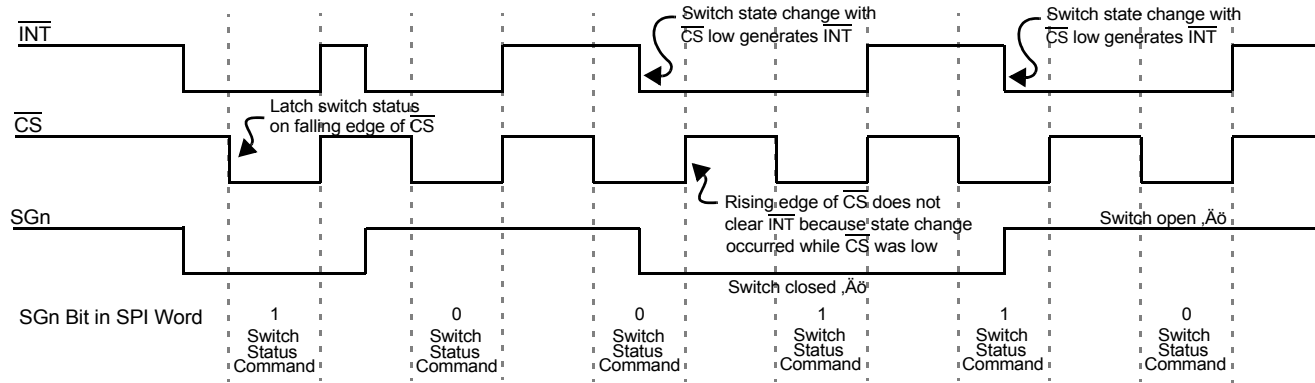

Figure 6. Normal Mode Interrupt Operation
2. $\overline{INT}$ pin is reset to logic [1], except when additional switch changes occur during $\overline{CS}$ low (see Figure 6, page 11).
Figure 6, page 11, is a graphical description of the device operation in Normal mode. Switch states are latched into the input register on the falling edge of $\overline{\text{CS}}$. The $\overline{\text{INT}}$ to the MCU is cleared on the rising edge of $\overline{\text{CS}}$. However, $\overline{\text{INT}}$ will not clear on the rising edge of $\overline{\text{CS}}$ if a switch has closed during SPI communication ($\overline{\text{CS}}$ low). This prevents switch states from being missed by the MCU.